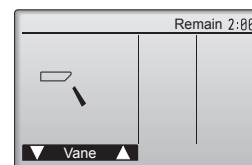

Fig. 7-6
- (1) Check the auto vane with the buttons. (Fig. 7-6)
- (2) Press the to return to "Test run operation".
- (3) Press the .